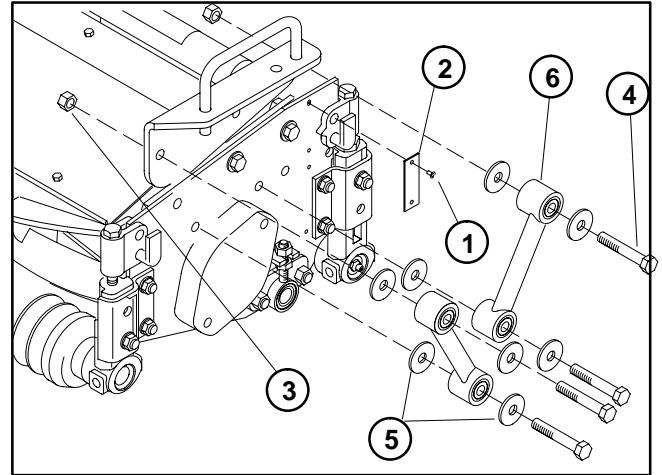
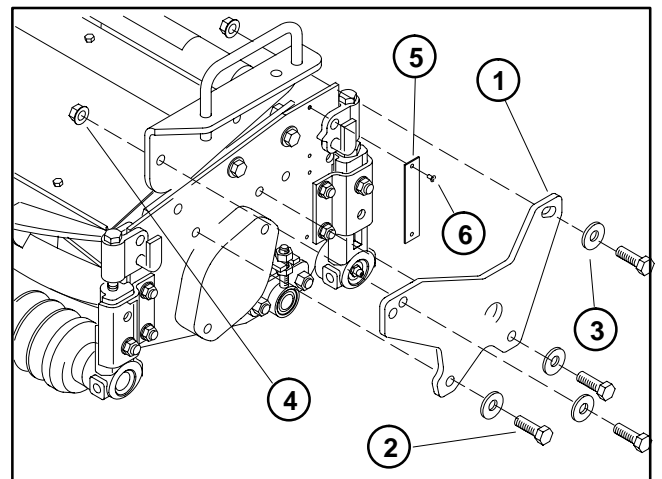

Figure 28
Figure 29
Fixed Side Plate Installation (Fig. 28 and Fig. 29)
1. Remove pop rivets and rear height-of-cut plates from both sides of the cutting unit (Fig. 28).
2. Remove lock nuts, capscrews, washers, and both links from the cutting unit (Fig. 28).
3. Align fixed side plate with holes on the cutting unit (Fig. 29).
4. Attach new capscrews, washers, and flanged lock nuts to the fixed side plate and the cutting unit (Fig. 29).
6. Fasten new height-of-cut plate to the cutting unit with new pop rivets (Fig. 29).